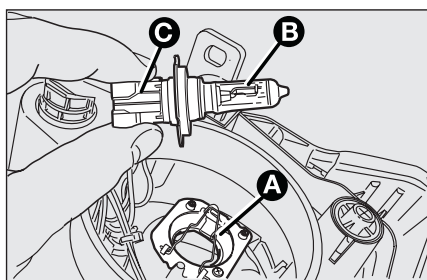

fig. 12
- ☐ disconnect the connector **C**-fig. 12;
- ☐ remove the bulb holder **A**-fig. 12